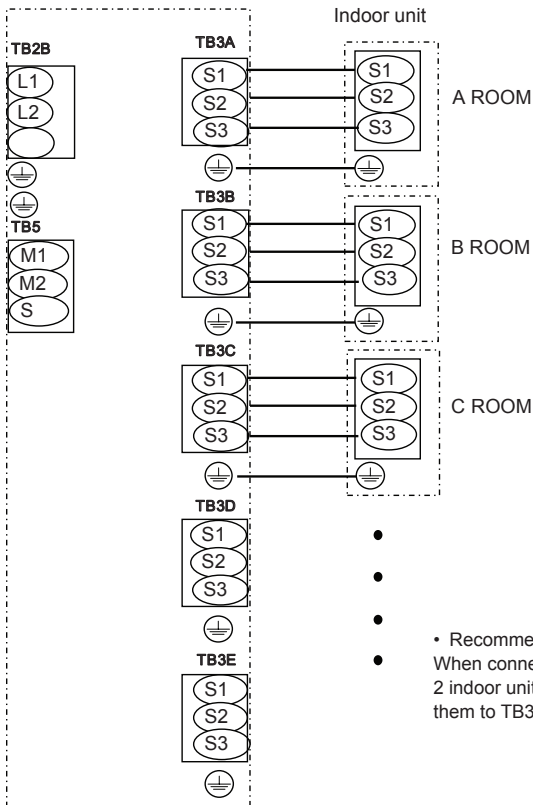

Fig. 8-10
8.2. External wiring procedure (Fig. 8-9, Fig 8-10)